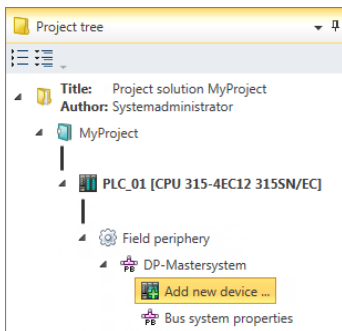

Fig. 61: Adding slave via "Project tree"
- **Project tree:** Within the PLC under 'Decentralised periphery' and the suitable bus system (e.g. DP master system), click on 'Add new device'. Fig. 61